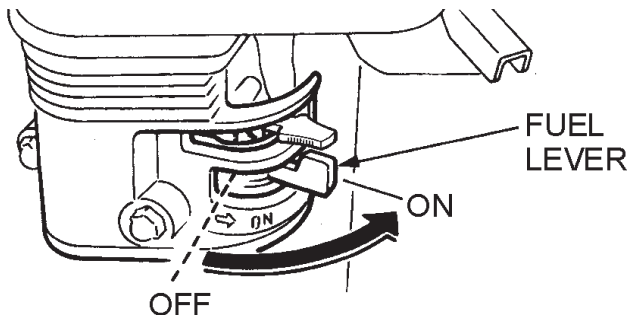

Figure 19. Fuel Valve Lever
3. Place the **fuel valve lever** (Figure 19) to the **ON** position.